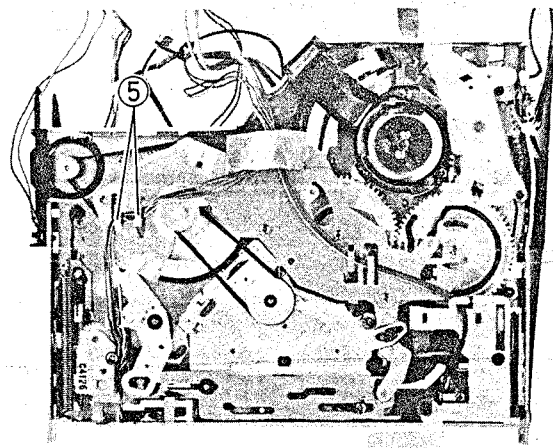

Fig. 2-72 Cassette Holder Switch Removal
5. Remove the wires from the wire holders. (See Fig. 2-72)